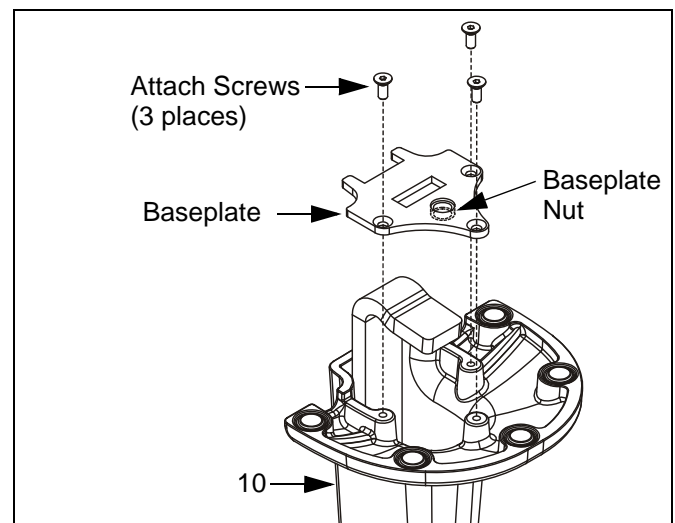

Figure 6: Baseplate
1. Using 2.5mm hex key, remove and retain baseplate and three attach screws from bottom of mount (10) (See Figure 6).
3. Using 2.5mm hex key, re-install baseplate with three retained attach screws. Ensure baseplate nut faces interior of mount (See Figure 6). Tighten securely.